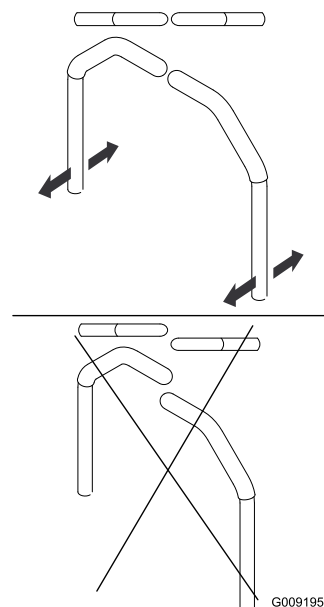

Figure 81
4. Align the levers in the front-to-rear position by bringing the levers together to the neutral position, and slide them until they are aligned, then tighten the bolts (Figure 81).